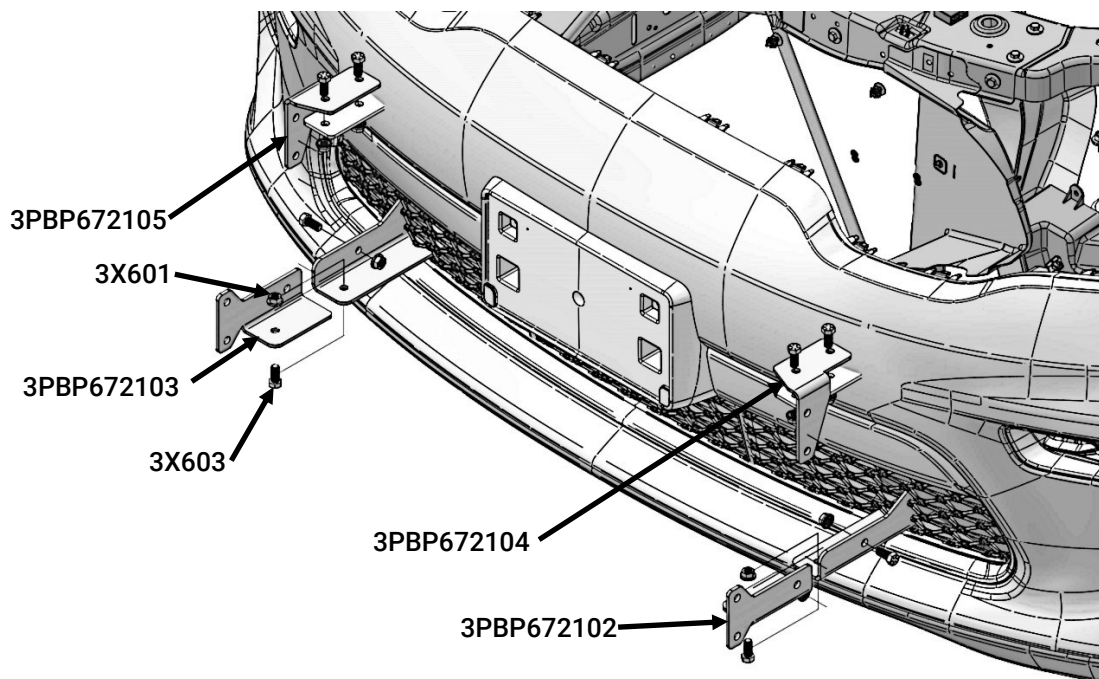

Figure 6
- G. Install upper bracket [3PBP672105] and lower bracket [3PBP672103] to passenger side using (2) hex bolts [3X603] and (2) flange nuts [3X601]. Leave loose for adjustment. (Fig. 6)